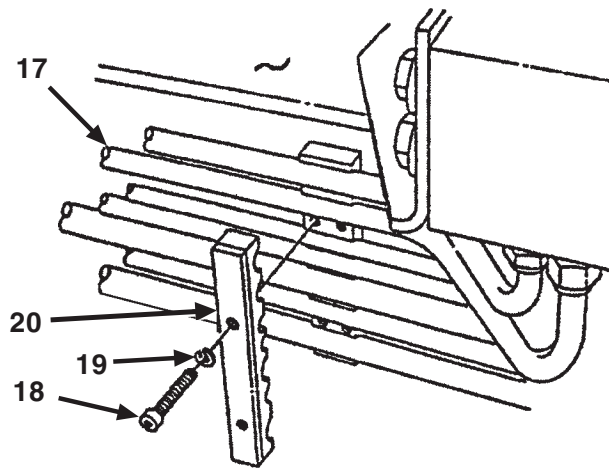

Figure 54. Manifold Tubes.
Step 8 applies to Figure 54.
8. From hull access opening, remove two screws (item 18), lockwashers (item 19), and retaining strap (item 20) from five tubes (item 17) and hull. Discard lockwashers (item 19).